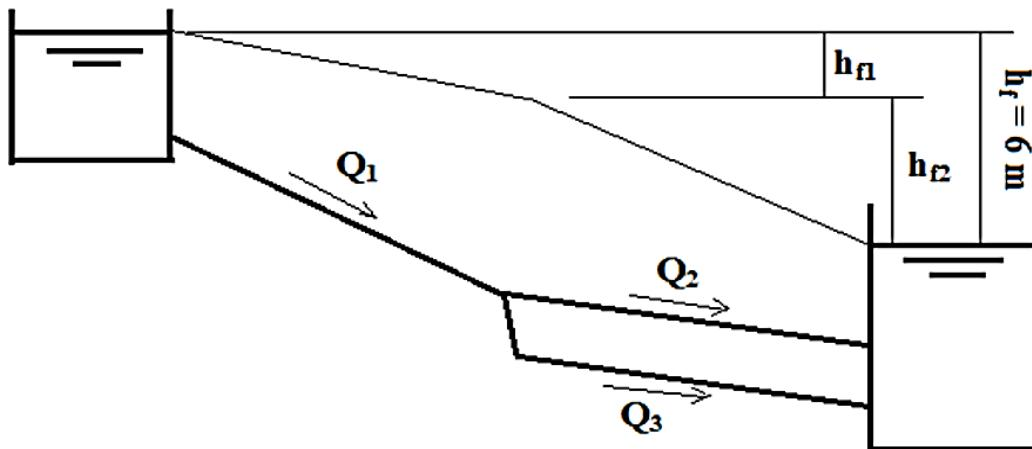

Figure 4 / Rajah 4
- (c). Two reservoirs as shown in **Figure 4** have 6 m difference in water levels, and are connected by a pipe 60 cm diameter and 3000 m long. Then, the pipe branches into two pipes, each 30 cm diameter and 1500 m long. The friction factor (f) of all pipes is 0.01. Neglecting minor losses, determine the flow rates in each pipe.